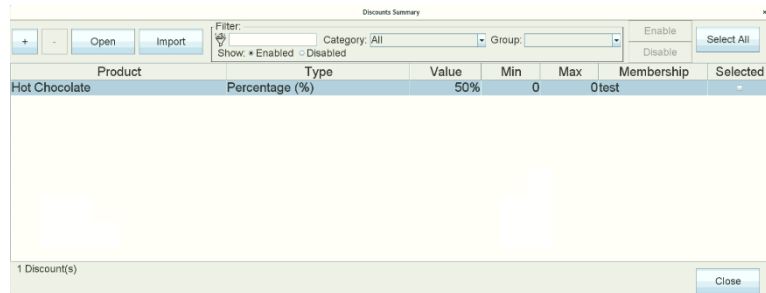

Figure 108: Discounts Summary
5. The Discount Properties Dialog window is displayed (Figure 108).
8. Provide a description for the discount you want to apply. This description will be displayed in both Discounts Summary (Figure 108) and in the sales ledger (if discounts apply to any of the products being purchased).